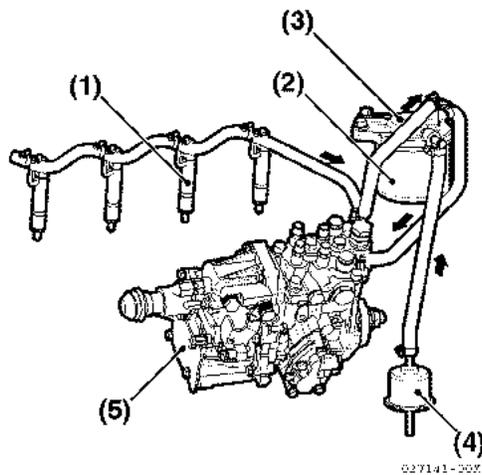
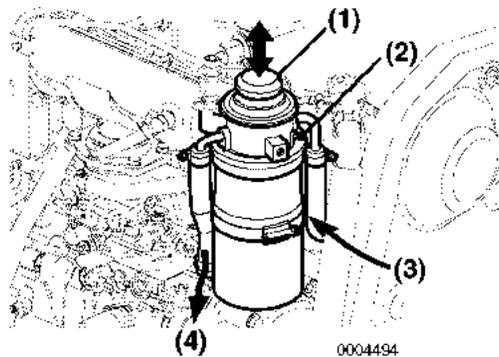

Figure 5-12
Figure 5-13
12. Remove the fuel filter (Figure 5-12, (2)) and (Figure 5-13).